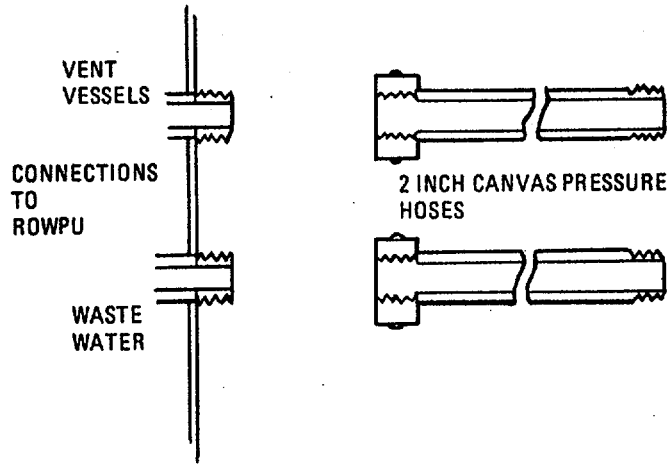

FIGURE 2-33. WASTE WATER SYSTEM
(17) Using spanner wrench, hook up waste water and vent vessels systems (figure 2-33). Start at ROWPU with hose going down and away from ROWPU, ending well downstream of raw water intake.